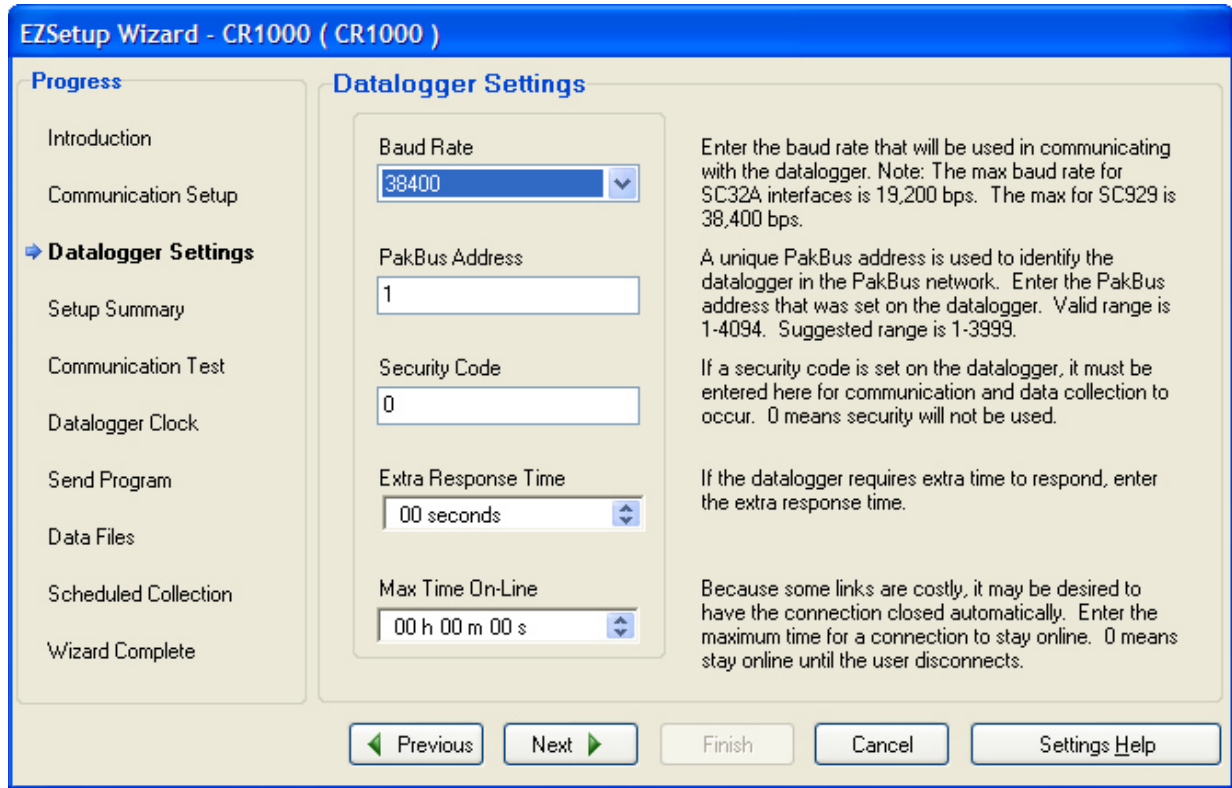

FIGURE 3-3. The Baud Rate in LoggerNet must match the radio’s RS-232 baud rate.
- b. For the datalogger settings, set the Baud Rate to match the radio’s RS-232 baud rate. (The radio’s default RS-232 baud rate is 38.4 kbps.) The datalogger “Extra Response Time” can be left at 0 (see FIGURE 3-3).